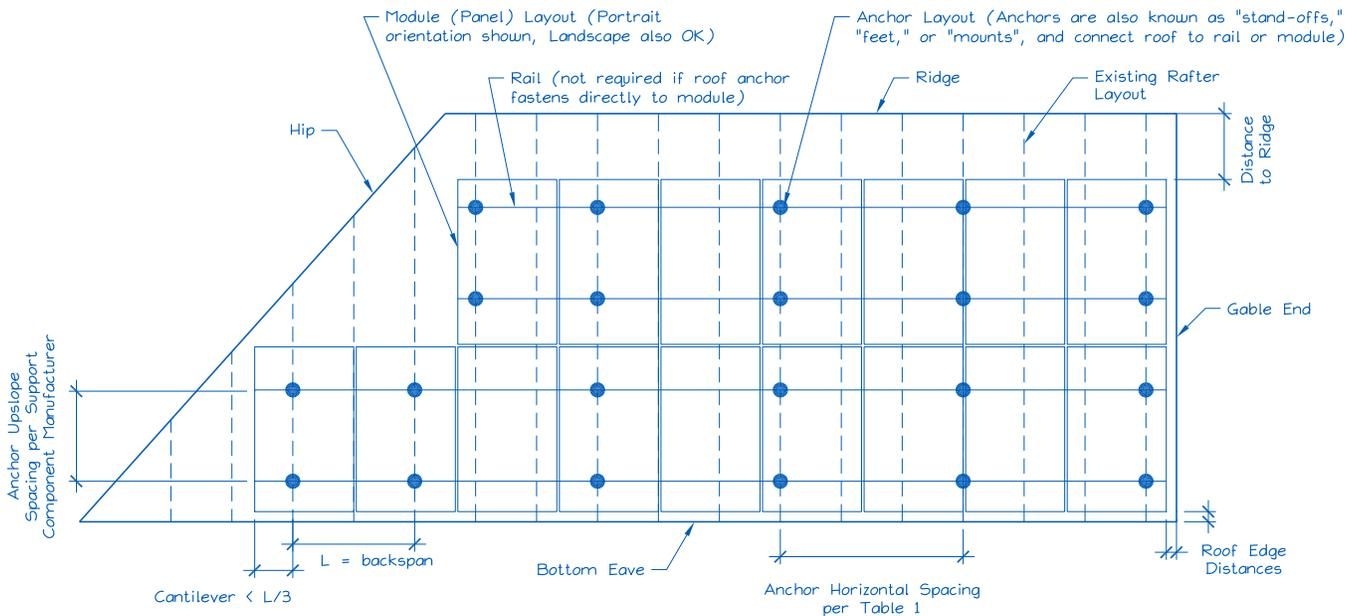

**Figure 1. Roof Visual Structural Review (Contractor's Site Audit) of Existing Conditions.**
- 2) Does the roof structure appear structurally sound, without signs of alterations or significant structural deterioration or sagging, as illustrated in Figure 1?  Y  N